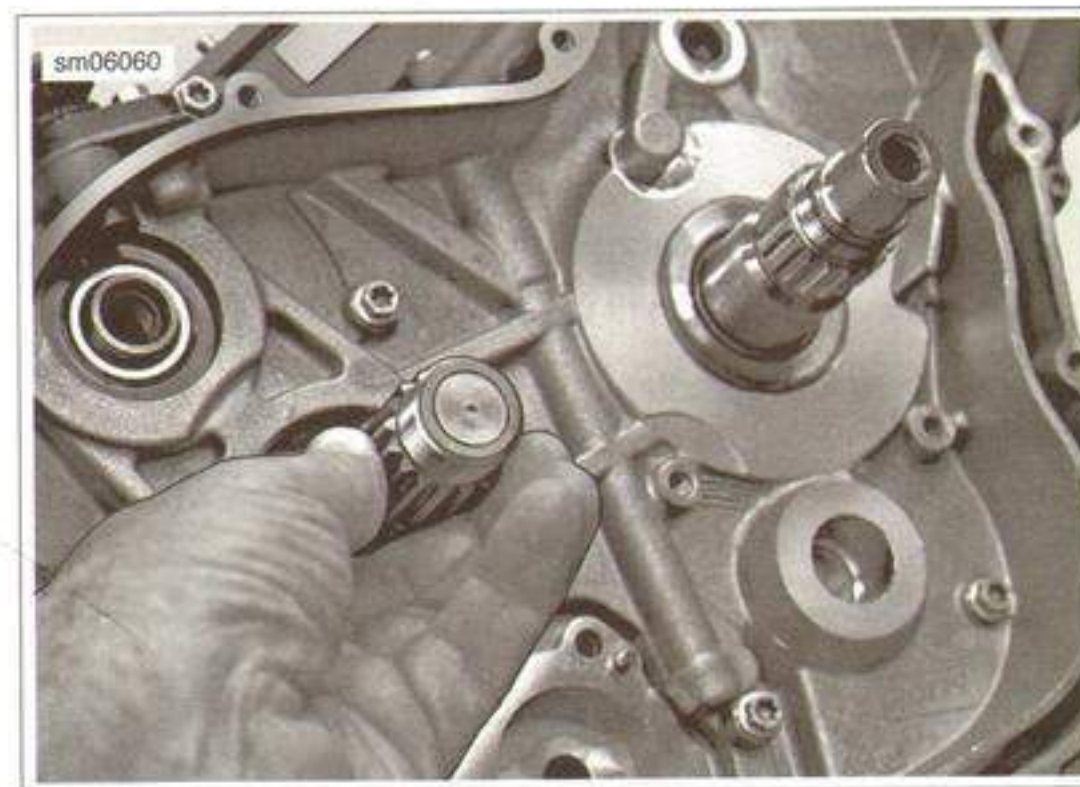

Figure 6-84. Spinning the Clutch Shaft
5. See Figure 6-84. With the detent wheel in the neutral notch, both shafts should turn independent of each other.